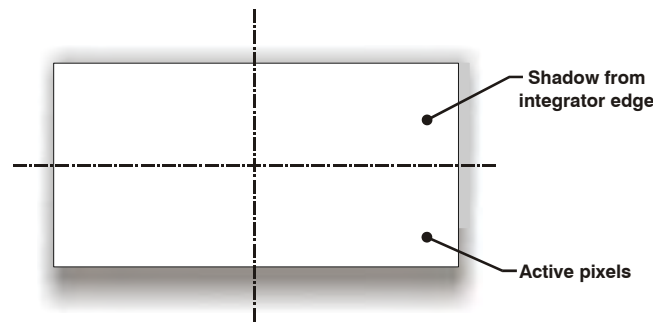

Figure 3-3 Centering the Integrator
4. **Centering:** Confirm that all shadowy edges cast by the integrator are projected OFF the screen, with the white field fully visible and centered between shadows. If necessary, use the fold mirror adjustment screws to precisely direct the white field between all edge shadows. Centering signifies that the rectangle of light passed from the integrator completely illuminates the DMDs. (**Figure 3-3**)